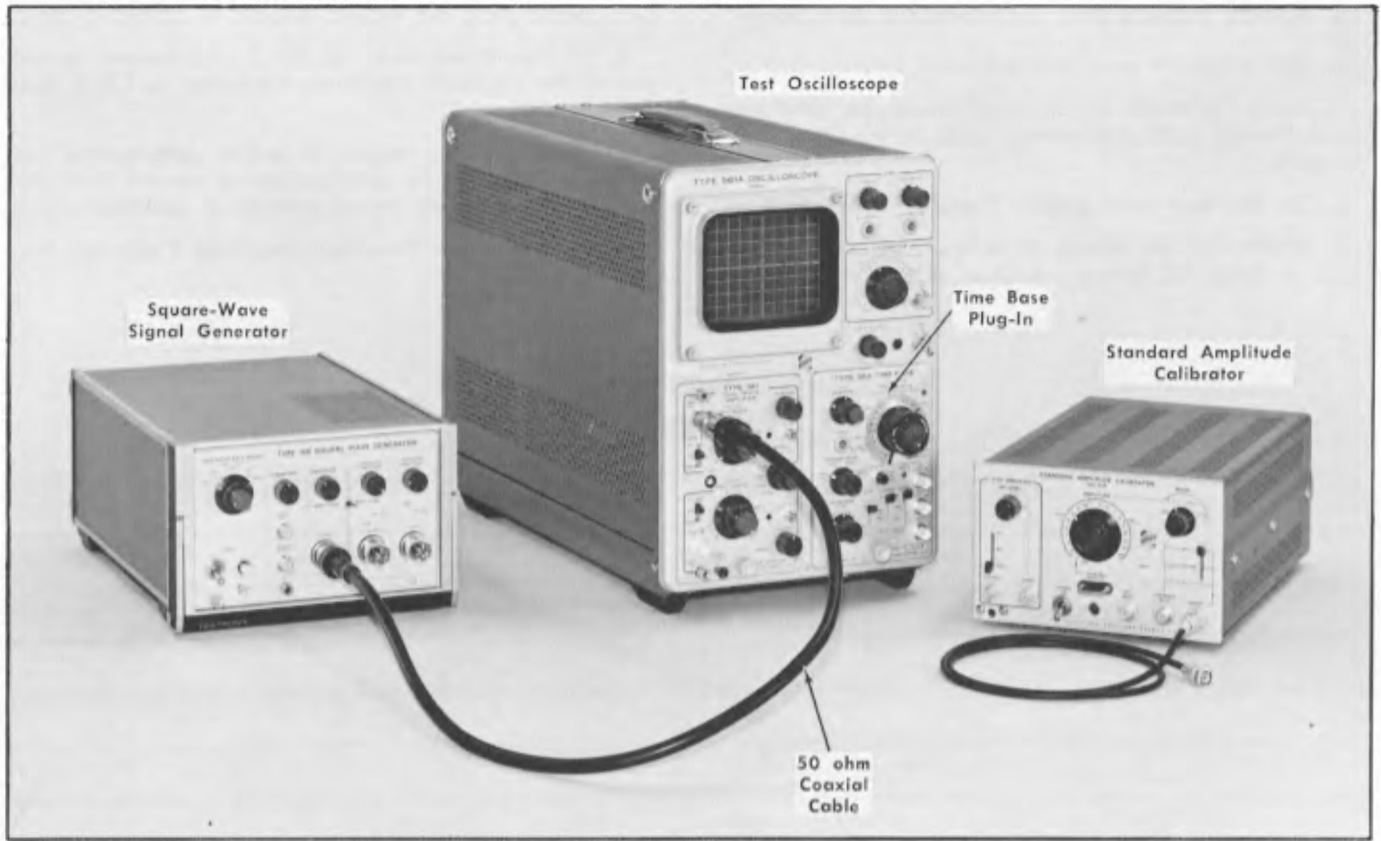

Fig. 7-21. Test equipment setup for steps 17 and 18.
- a. Test equipment setup is shown in Fig. 7-21.